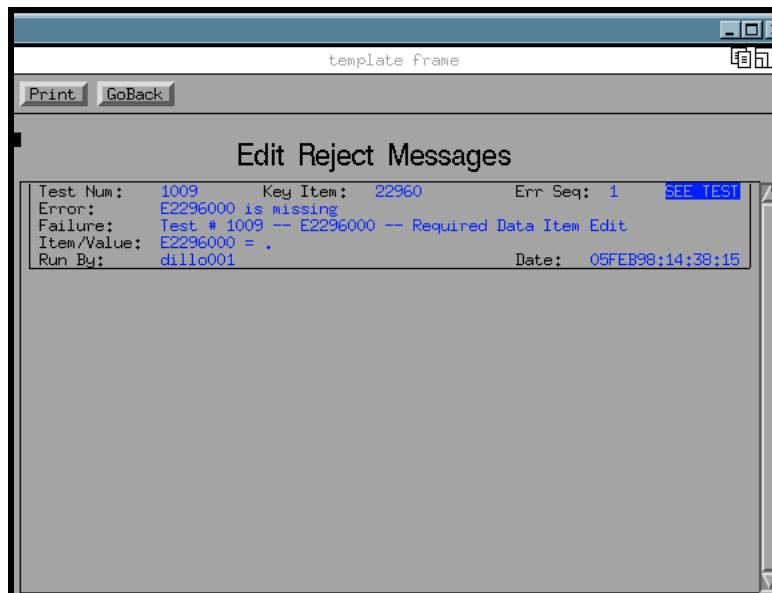

Figure 4.2.4b Edit Reject Message Screen
- ! If edit rejects are identified through the “Run edit” option on this screen, a ‘W’ will be displayed in the ID Flags field in the Control Information section. The ‘W’ indicates that single ID edit rejects exist for this ID. At any time, you can click on the ‘W’ to display a list of the edit rejects, as shown in Figure 4.2.4b. The “W” will remain in the ID Flags field until you correct all rejects and rerun the edit.